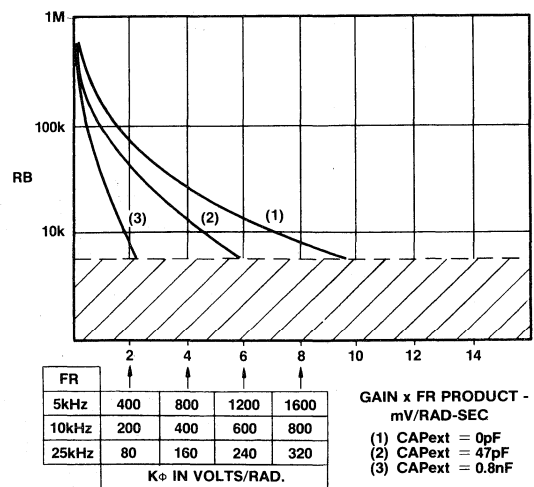

Fig.8 RB v. gain and reference frequency
RB and CAP should be chosen to give the required gain at the reference frequency used. Fig.8 shows that to achieve a gain of 380V per radian at 10kHz requires RB to be approximately 39kΩ, CAP is zero. A hold capacitor (CH) of non-critical value which might be typically 470pF is connected from CH to  $V_{SS}$ . A smaller value is sufficient if the sideband performance required is not high.